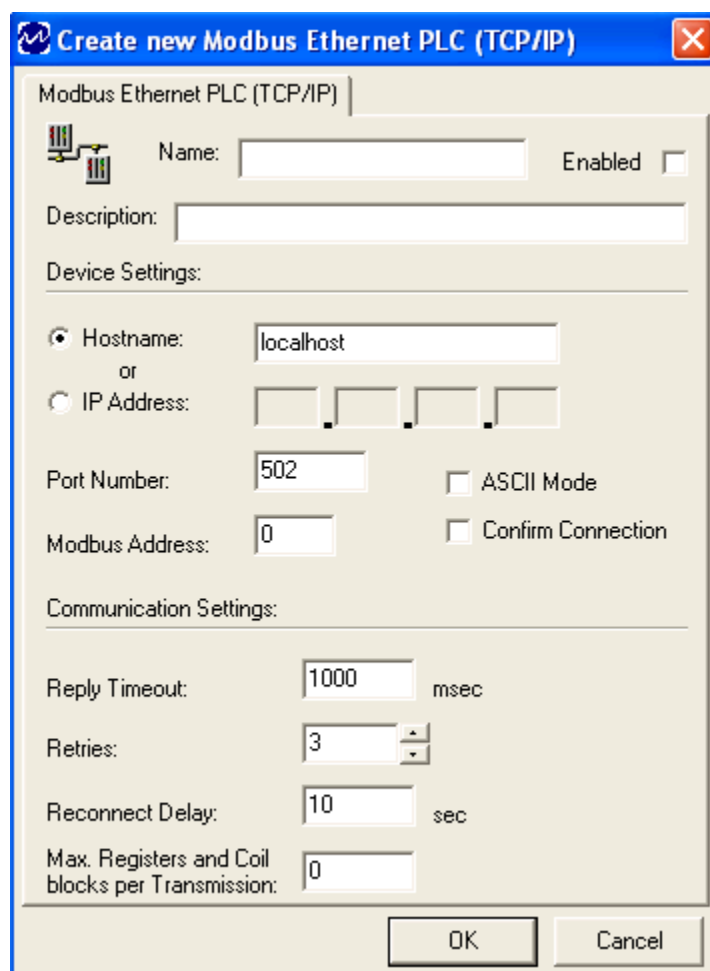

Figure 2 - Create New Modbus Ethernet PLC (TCP/IP) Window
The **Create New** window (Figure 2) displays the settings available for a connection to a Modbus Ethernet PLC (TCP/IP) device.
- The **Create New** window appears (Figure 2).